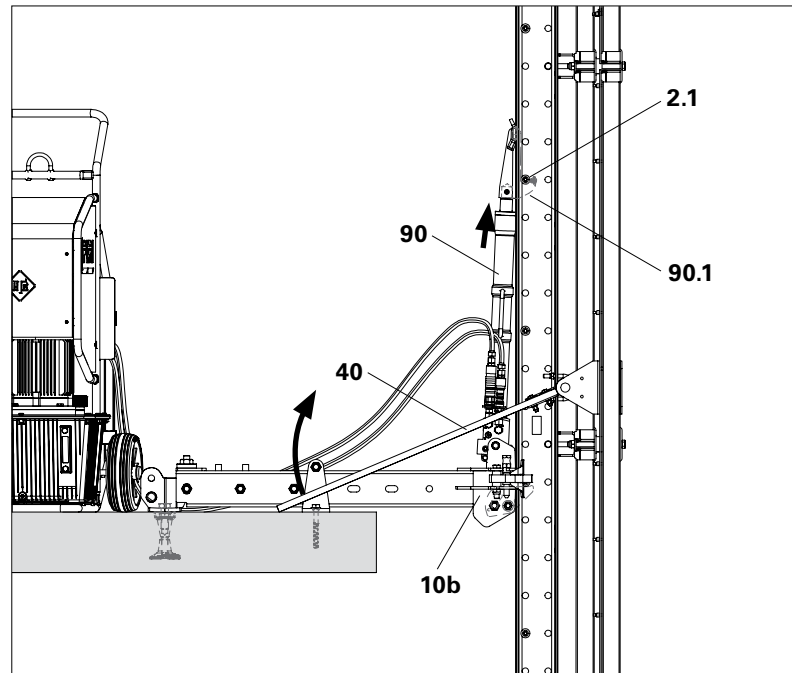

Fig. D5.04
1. Fold up Foldable Covers (40) and secure by sliding laterally behind the Climbing Rail.
2. Extend the hydraulic cylinder (90) up to the first Spacer (2.1).
3. Load is now carried by the piston with claw (90.1). (Fig. D5.04)